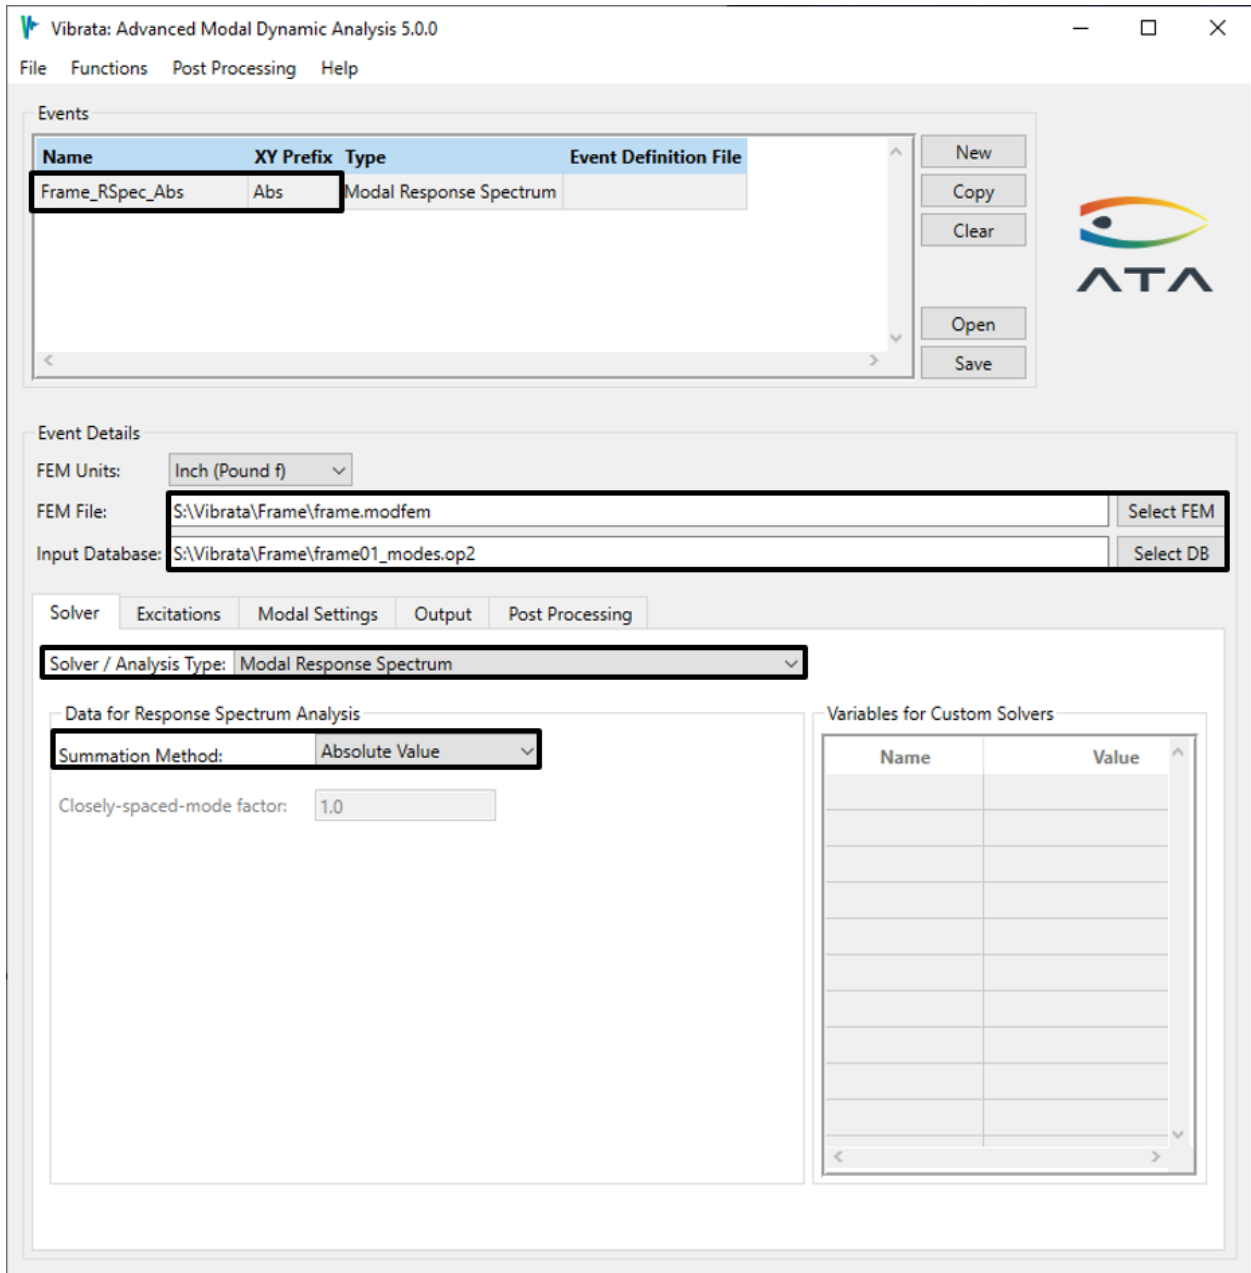

Figure 4-76. New response spectrum event with absolute value summation.
2. Create a new Vibrata event, select the "frame.modfem" file for the FEM and "frame01\_modes.op2" for the results, and create a Modal Response Spectrum event with the **Summation Method** set to *Absolute Value* (Figure 4-76).